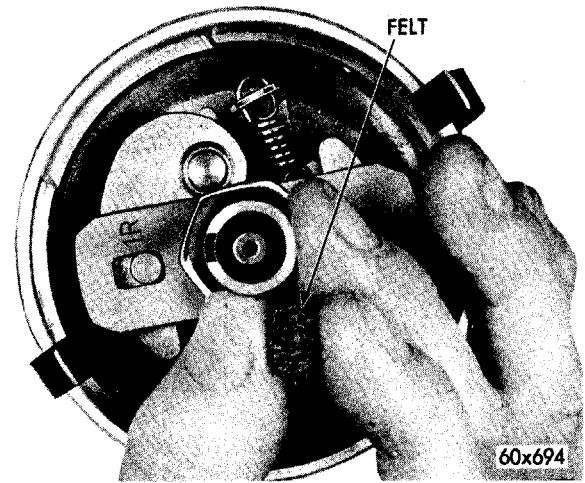
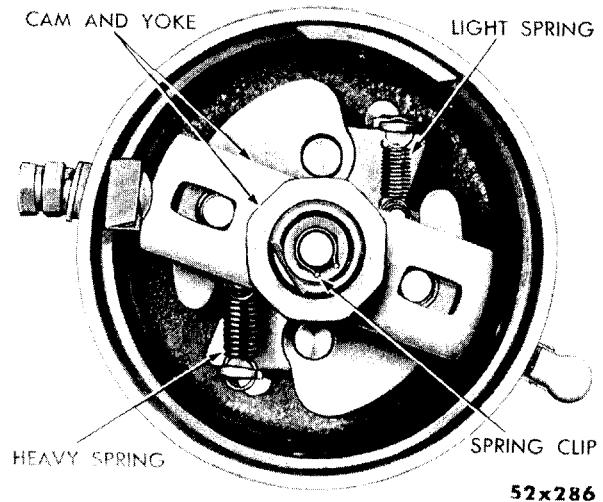

Fig. 4—Removing or Installing Oiling Felt from Distributor Cam (6 Cylinder Typical of 8 Cylinder)
Fig. 5—Distributor Cam Installed (Typical)
- (1) Remove distributor rotor.
- (2) Remove the screws and lockwashers that hold the distributor cap clamp springs to the distributor housing and remove clamp spring. (8 cylinder). **The distributor cap clamp springs are held in place by peening the metal around the base of spring and should not be removed. (6 cylinder).**
- (3) Remove hairpin clip and washer attaching the vacuum control unit to the breaker plate advance arm. Remove the two screws and lockwashers attaching the vacuum control unit to the distributor housing and remove vacuum control unit.
(4) Remove the primary lead terminal screw and slide the primary lead off the breaker plate terminal. On six cylinder and eight cylinder single breaker, remove wire and rubber grommet as an assembly.
(5) Remove the two screws and lockwashers attaching breaker plate to housing and lift out the breaker plate, points and condenser as an assembly.
(6) Remove oil felt from distributor cam, as shown in Figure 4. Remove spring clip from the oil well in cam, as shown in Figure 5.
(6) Install cam retaining spring clip, (refer to Figure 5).
(7) Lubricate and install upper thrust washers on shaft and slide shaft into distributor body.
(8) Position lower thrust washer and drive collar on lower end of shaft and install retainer pin (8 cylinder engines). **For 6 cylinder engines, the distributors are equipped with a driven gear and roll-pin. Support the hub of gear when installing the pin so that gear can not be damaged.**
(9) Install oiler wick and oiler.
(10) Install the breaker plate assembly, align condenser lead, breaker point spring primary lead and install attaching screw.
(11) Install distributor cap clamp springs, lock-washers and screws (8 cylinder only).
(12) Install felt wick in top of distributor cam (refer to Figure 4.)
(13) Attach vacuum control unit arm to breaker plate advance arm and install retainer clip.
(14) Install the vacuum unit attaching washers and screws.
(15) Check spring tension and adjust contact gap.
(16) Adjust contact gap (Paragraph 10.)
(17) Lubricate felt pad in top of distributor cap with 3 to 5 drops of light engine oil and install rotor.